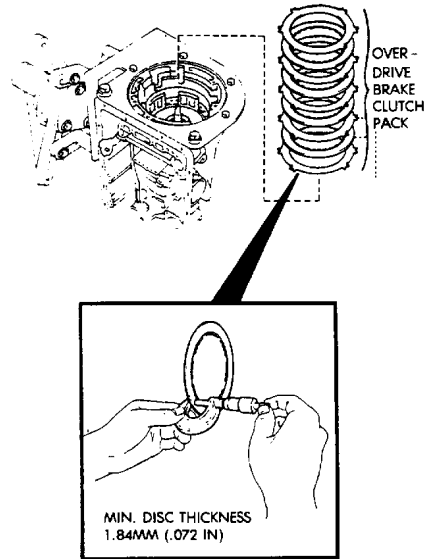

Fig. 22 Remove/Measure Overdrive Brake Disc Thickness
(30) Remove overdrive brake discs and plates (Fig. 22). Then measure disc thickness with a micrometer. Minimum disc thickness is 1.84 mm (.0724 in). Replace discs if thickness is less than specified.